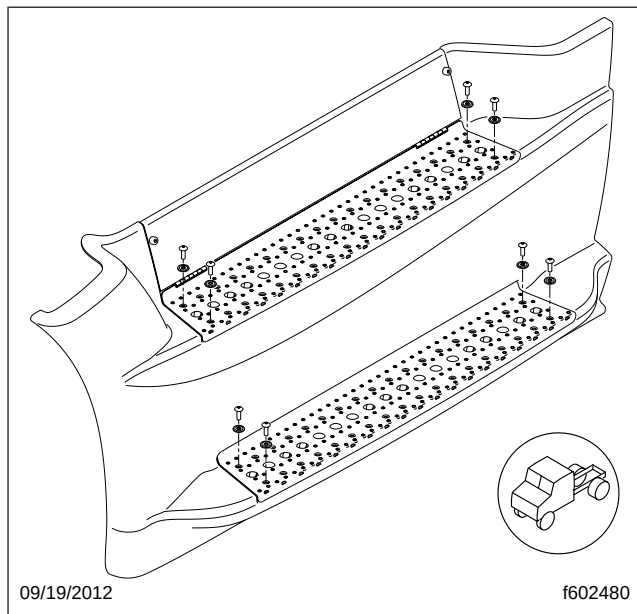

Fig. 1, Fastener Locations on Fairing Treads
1. Remove the eight fasteners attaching the upper and lower aluminum treads to the forward panel and rails, and remove the treads. See Fig. 1.